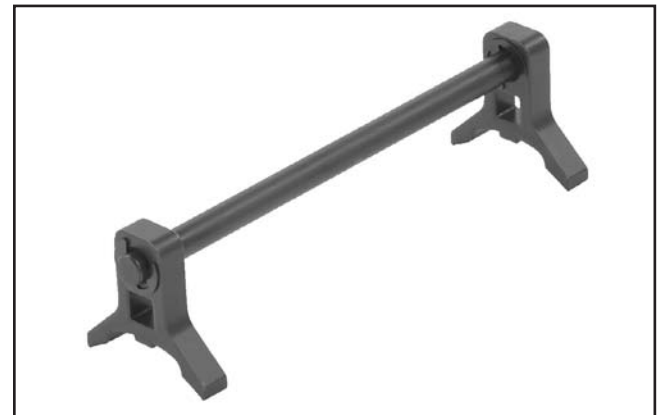

Figure 24. Knife setting gauge assembled.
26. **Model G0490 Only:** Assemble the knife setting gauge as shown in **Figure 24**.